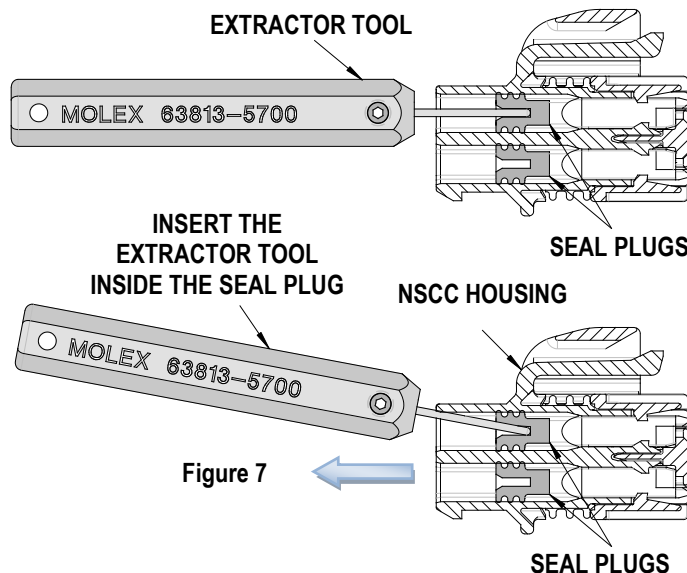

Figure 7
2. Tilt the extractor tool up at an angle. See Figure 7.